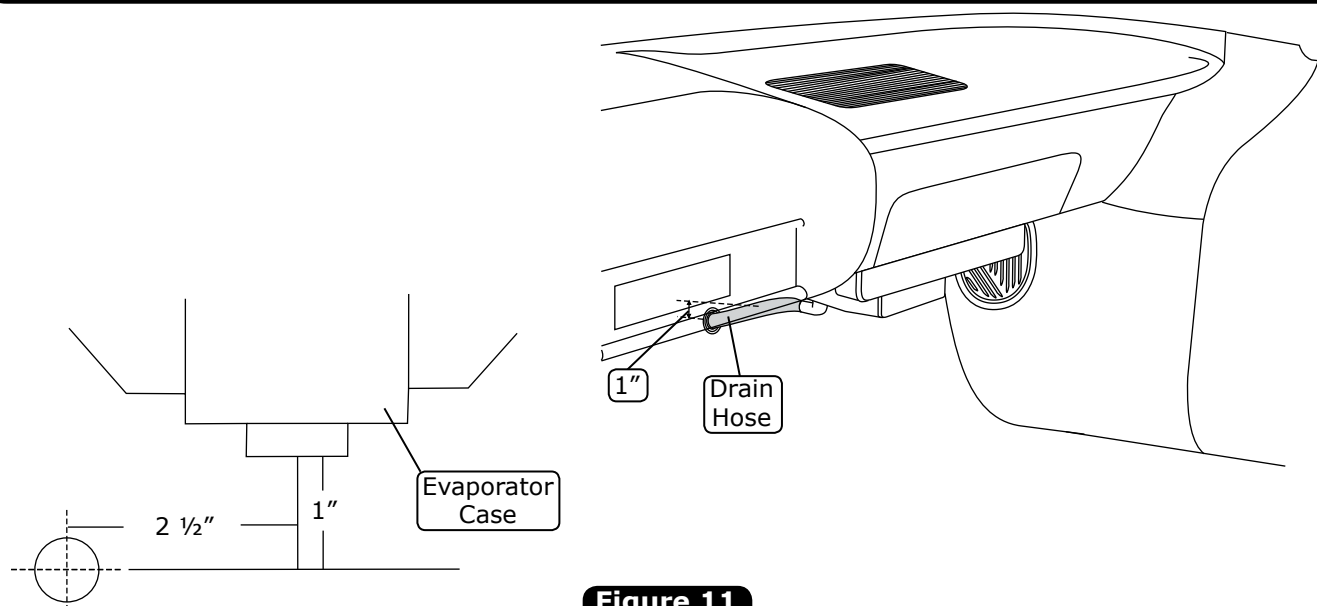

Figure 11
2. In line with the drain, lightly make a mark on the firewall. Measure 1" down and 2 1/2" to the left, and drill a 5/8" hole through the firewall (See Figure 11, below).
3. Install the drain hose onto the outlet on the bottom of the evaporator unit, and route it through the firewall (See Figure 11, below).